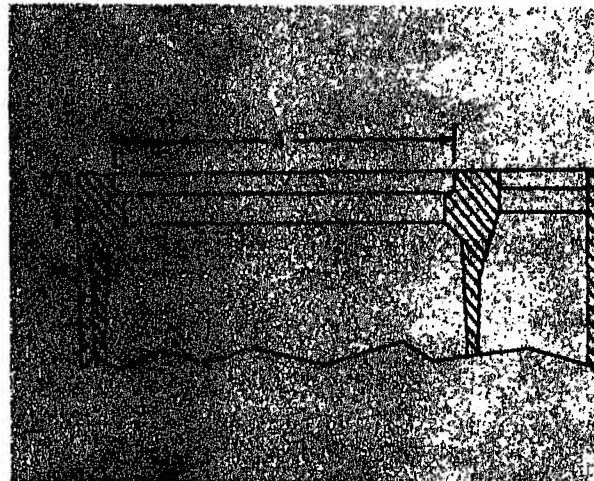

Fig. 1-1-5. Cylinder liner counterbore dimensions
- Check upper liner counterbore diameter at four equidistant points, Fig. 1-1-5. If counterbore exceeds limits shown in Table 1-1-4 for the top 0.250 in. [6.3500 mm] depth, machine block for machining for oversize flange liners.